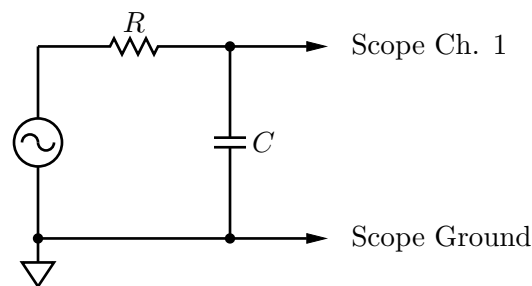

Figure 8.1. Circuit for measuring the amplitude and phase response of the capacitor in the RC circuit.
1. We will measure the amplitude and phase of the potential across the capacitor as a function of frequency by building the circuit in Fig. 8.1.